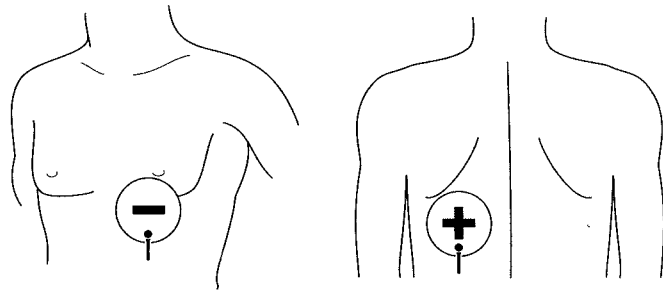

Figure 5-3 Anterior-posterior electrode placement for pacing
- 7 Place the black ANTERIOR (-) electrode on the left anterior torso, halfway between the xiphoid process and the left nipple at apex of the heart. The upper edge of electrode should be below the nipple (see Figure 5-3). Avoid placement over the nipple, diaphragm, or sternum, if possible.
- 8** Place red POSTERIOR (+) electrode on left posterior torso beneath the scapula and lateral to the spine at heart level. Avoid placement of the electrode over the bony prominences of the spine or scapula (see Figure 5-3).